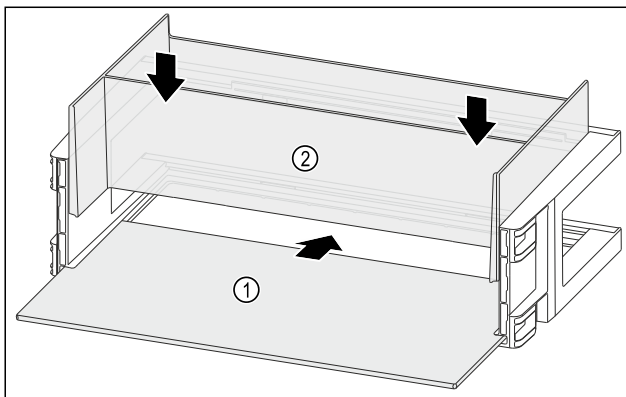

Fig. 138
- ▶ Push the shelf Fig. 138 (1) into the side recesses.
- ▶ Insert the organiser Fig. 138 (2).